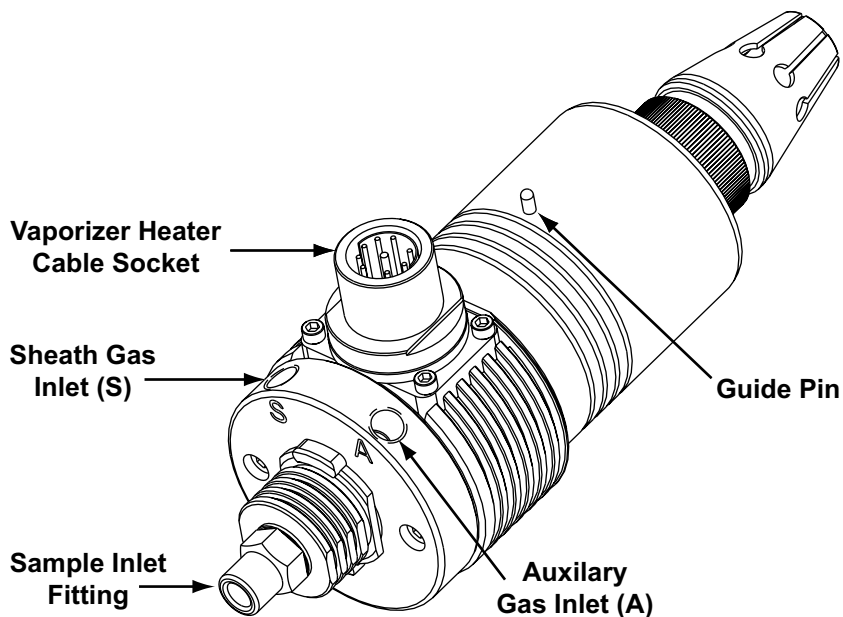

Figure 54. APCI probe
3. Insert the APCI probe into the port in the ion source housing, align the guide pin on the probe body at a 45 degree angle from the API interlock block. See Figure 54
10. Connect the sheath gas fitting (blue) to the sheath gas inlet (S) on the probe. (See Figure 54)
11. Connect the auxiliary gas fitting (green) to the auxiliary gas inlet (A) on the probe. (Figure 54)